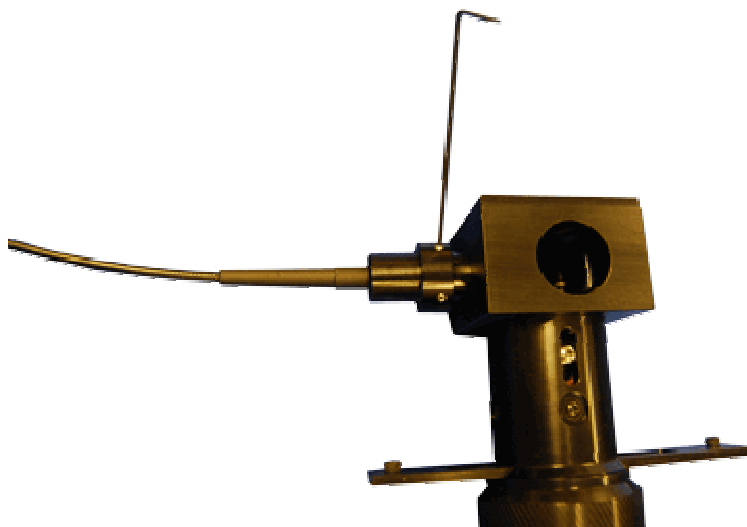

Figure 3-14: Tightening the Set Screws
b) Tighten the set screws as shown in Figure 3-14.